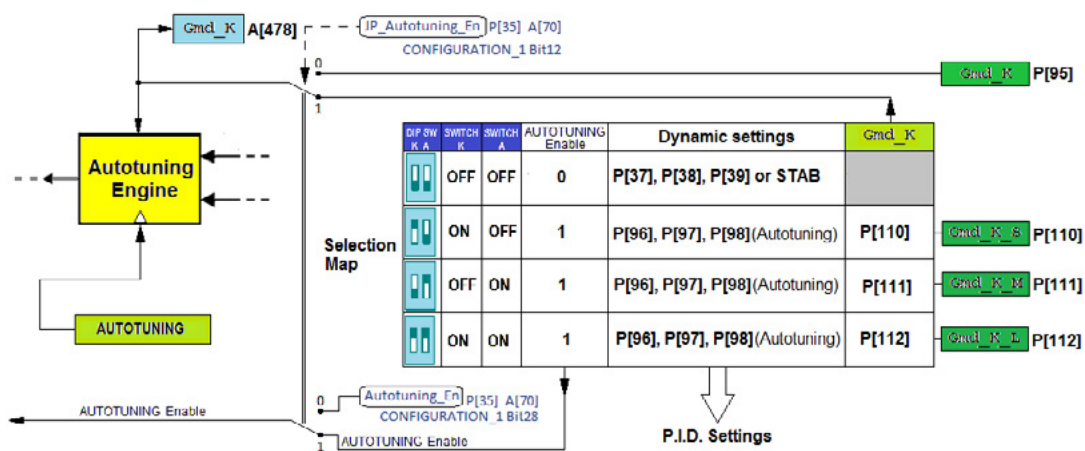
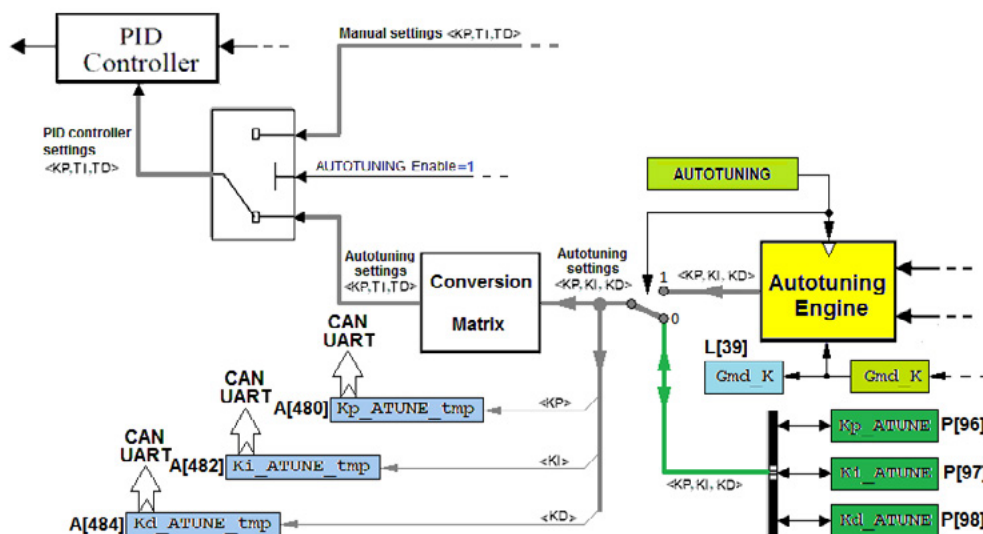

Fig. 5.4-A: Auto-tuning Selection scheme
Fig. 5.5-A: Auto-tuning P.I.D. controller settings
The method used is selected through the combination of two hardware DIP-switches (named K and A, fig. 5.3-A: Auto-tuning DIP Switches) or the corresponding flag **Autotuning** (bit B28 of parameter P[35] **CONFIGURATION_1**, address A[70]); source selection depends on the status of the flag **JP_Autotuning_En** (bit B12 of parameter P[35] **CONFIGURATION_1**, address A[70]); fig. 5.4-A: Auto-tuning Selection scheme.
The value taken by the variable **Gmd_K** which can be read at address A[478], fig. 5.4-A: Auto-tuning Selection and fig. 5.5-A: Auto-tuning P.I.D. controller settings is essential for correct auto-tuning operation.
If enabled, the 3 DIP switch “K” and “A” combinations, in which at least one of the two is “ON”, select one of the 3 values set by the 3 parameters P[110] **Gmd_K-S**, P[111], **Gmd_K-M** and P[112] **Gmd_K-L** (addresses A[220], A[222] and A[224]), fig. 5.4-A: Auto-tuning Selection
Enabling or disabling both DIP switches depends on the status of the flag **JP_Autotuning_En** (bit B12 of parameter P[35] **CONFIGURATION_1**, address A[70]), ref. fig. 5.4-A: Auto-tuning Selection.
The dynamic settings calculated by the auto-tuning algorithm can be read at addresses A[480] **Kp_ATUNE_tmp**, A[482] **Ki_ATUNE_tmp** and A[484] **Kd_ATUNE_tmp** fig. 5.5-A: Auto-tuning P.I.D. controller settings.
- the previously mentioned settings being saved in the respective parameters P[96] **Kp_ATUNE**, P[97] **Ki_ATUNE**, P[98] **Kd_ATUNE** (addresses A[192], A[194] and A[196]) fig. 5.5-A: Auto-tuning P.I.D. controller settings.